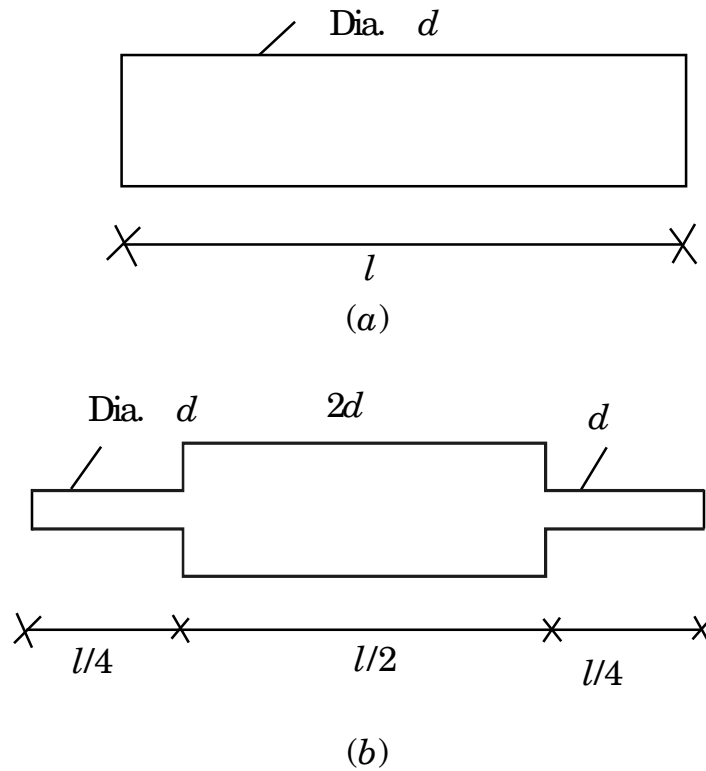

Fig. 9
- (b) For the two bars of same material shown in (a) and (b) of Fig. 9, find the ratio of maximum stress of bar (a) to that of bar (b). If two bars are stressed to proportional limit, find the ratio of their proof resilience. [9]